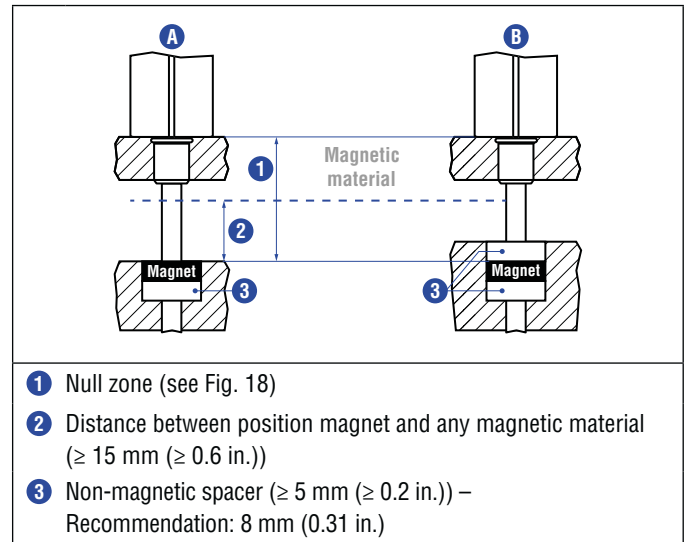

Fig. 16: Installation with magnetic material
- Minimum distance between position magnet and any magnetic material has to be 15 mm (0.6 in.) (Fig. 16).
- If no other option exists and magnetic material is used, observe the specified dimensions (Fig. 16).
When using magnetic material the dimensions of Fig. 16 must be observed.